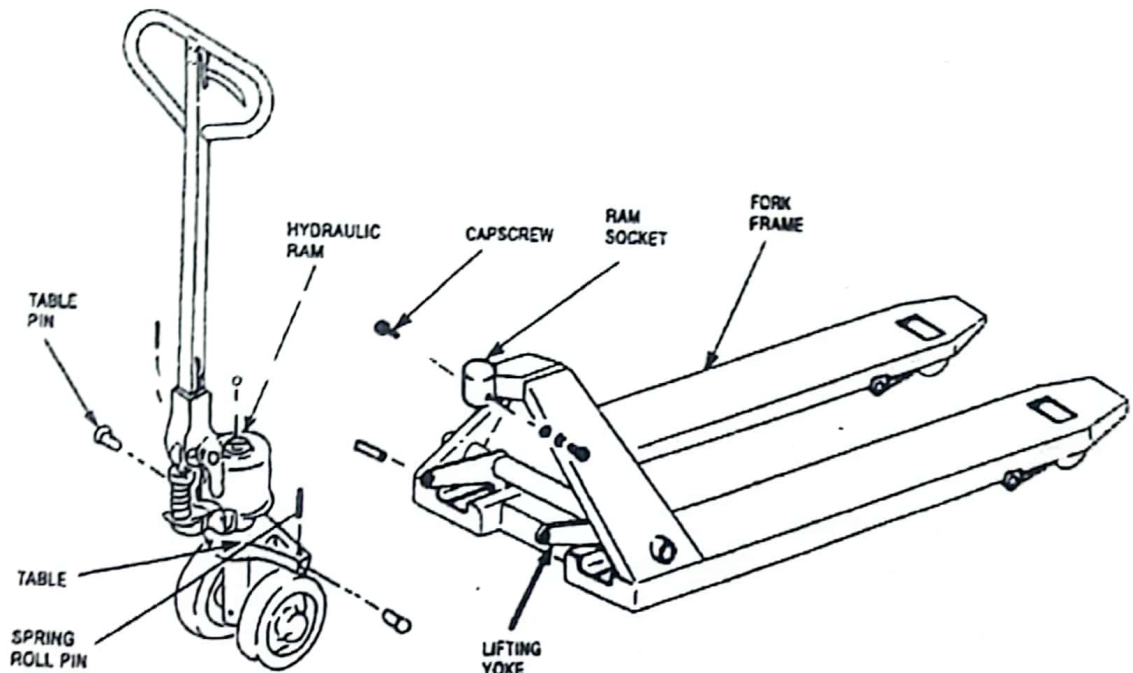

FIGURE 1
2. Line up hydraulic table with holes in lifting yoke. See Figure 1.